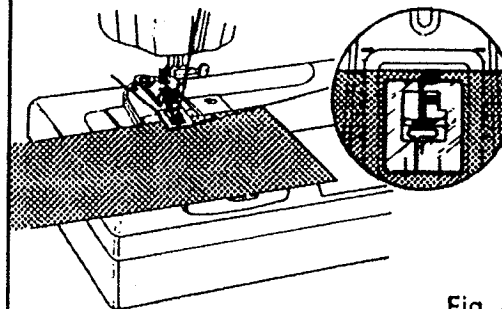

Fig. 4
4. Pick up bobbin thread through guide plate by turning hand wheel and drawing thread to back of machine. Place fabric between presser foot and guide plate. Line up edge of fabric with marked indentation on guide. See Fig. 4. If you wish all buttonholes to be $\frac{3}{4}$ inch from edge of garment, line up fabric with $\frac{3}{4}$ inch marking each time you start sewing a buttonhole.